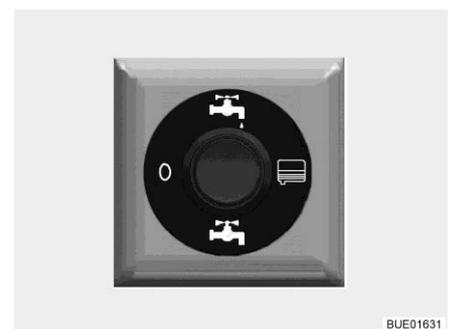

Fig. 149 Operating switch for electrically operated drainage valve
- Press the upper half of the operating switch (Fig. 149) in the rear garage. The waste water is drained.
- Once all the waste water has drained completely, press the operating switch (Fig. 149) at the bottom.
- Set the operating switch (Fig. 149) to the "0" position (power off).